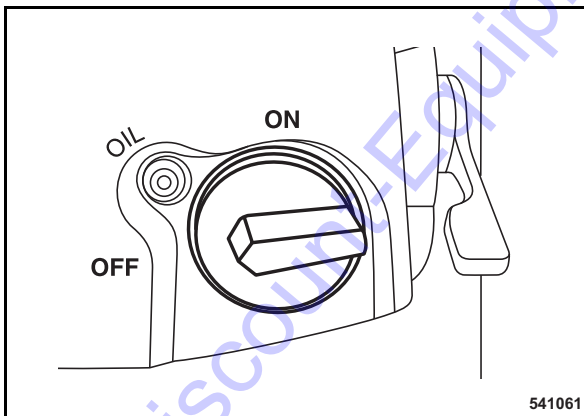

Fig. 36
- Set the engine stop switch (Fig. 36) to position "OFF" (fuel valve closed).